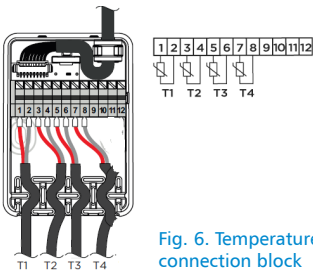

Fig. 6. Temperature sensor connection block
2. Then, connect the sensors to the included connection block in accordance with Fig. 6.